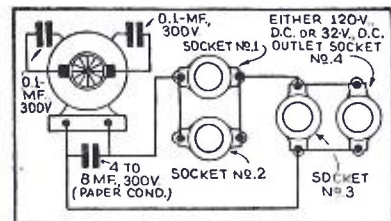

Fig. 5. 120-V. and 32-V. D.C. supply.
**A 120-V. and 32-V. D.C. Generator.** The scheme shown in Fig. 5 is a unit for supplying 120 or 32 V. D.C. for testing radio sets of the D.C. type. A 120-V., 1/4-H.P. compound-wound motor (speed 1,725 r.p.m.-G.E. type SD) is driven at a speed of about 2,600 r.p.m. as a generator—producing an output of